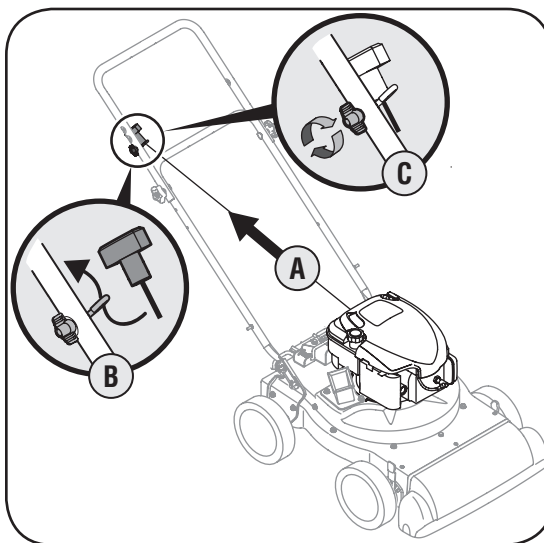

Figure 3-4
- a. Pull the starter rope out of the engine slowly. See Figure 3-4.
- c. Tighten the wing nut. See Figure 3-4.